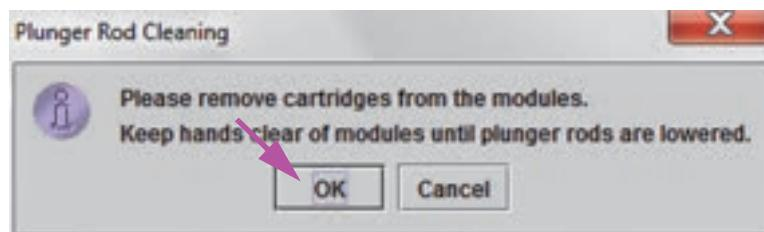

Figure 9-4. Plunger Rod Cleaning Dialog Box
4. In the **Module** table, select the module(s) to be cleaned and then select **Clean** or **Clean All** (see Figure 9-3). The Plunger Rod Cleaning dialog box is displayed (see Figure 9-4).